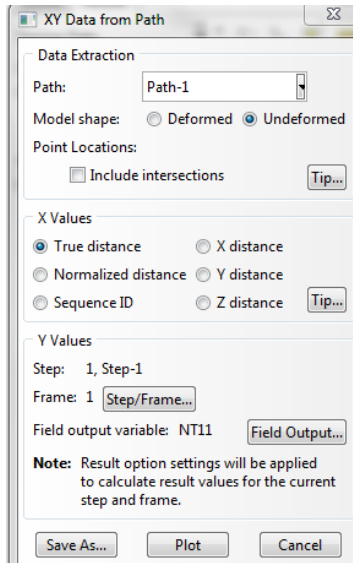

Figure 24
- In the XY Data from Path menu select undeformed and true distance. Also check that Field Output variable is NT11 if you intend to plot temperature. If not select the Field Output button and the field output of interest as in Figure 24.